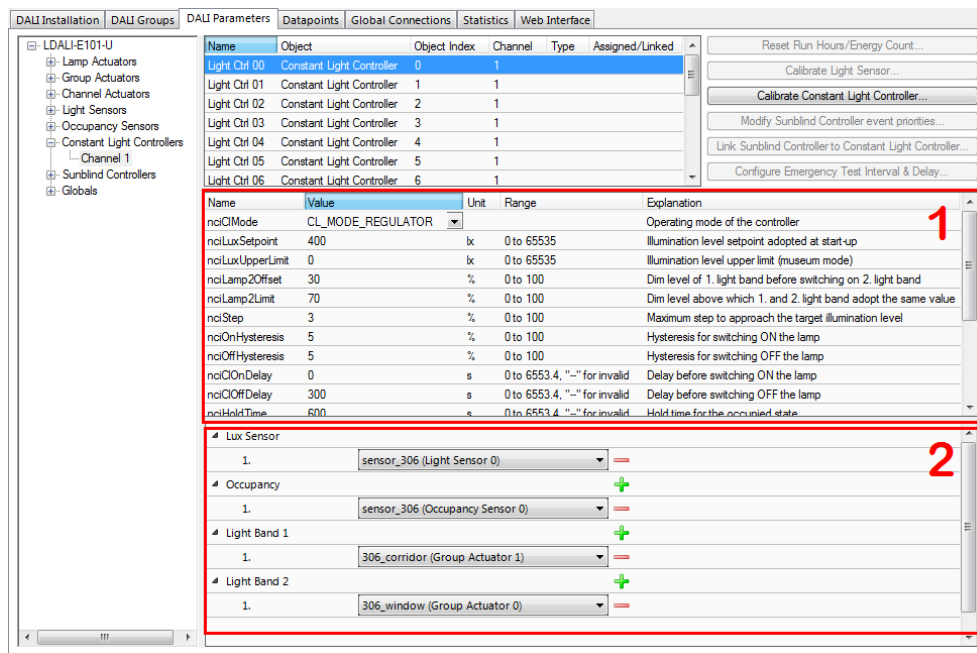

Figure 32: Parameterize Constant Light Controller.
- Select the constant light controller with index 0 as shown in Figure 32. The parameters of the selected constant light controller are displayed in the middle of the window (1).